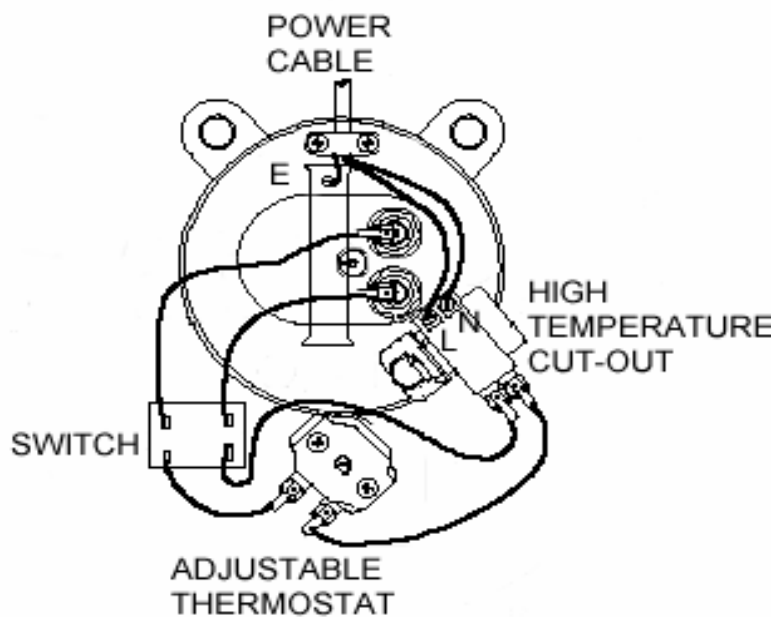

Fig 4
**7.1.The immersion heater** - A 3kW 230v 50Hz immersion heater is pre fitted to the cylinder at the factory. It should be wired in accordance with the instructions given in Fig 4. The cable should be routed through the strain relief bush.